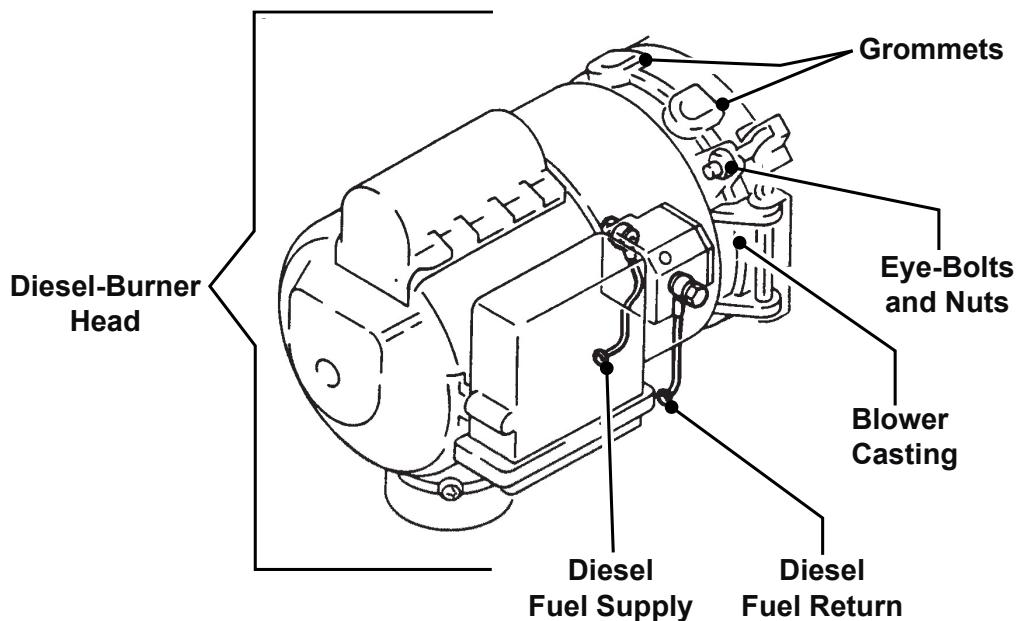

Figure 10
1. Loosen the two *Eye-Bolt Nuts* and swing the *Eye-Bolts* out of the way; reference Figure 10.
CAUTION: When reattaching the *Diesel-Burner Head*, be sure to properly align the *Diesel-Burner Head* before tightening the *Eye-Bolt Nuts*. Also, visually inspect all of the rubber *Grommets* on the top and bottom of the *Diesel-Burner Head*'s cast-aluminum *Blower Casting* to ensure they are in place. **DO NOT** overtighten the *Eye-Bolt Nuts* (torque specification = approximately 20-40 in. lbs.). An improper alignment and/or an overtightening of the *Eye-Bolt Nuts* can cause damage to the *Diesel-Burner Head*'s cast-aluminum *Blower Casting*; reference Figure 10.